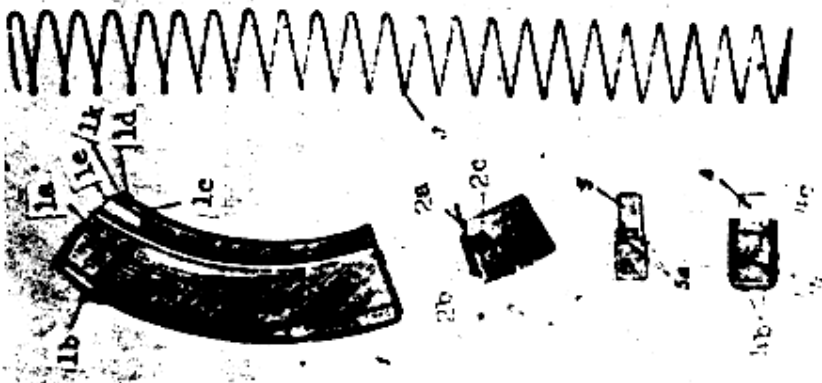

Figure 55. Magazine (assy. 7)
The magazine (fig. 55) contains and feeds the rounds. It consists of a body (1), follower (2), follower spring (3), base plate (4) and base plate retainer (5).